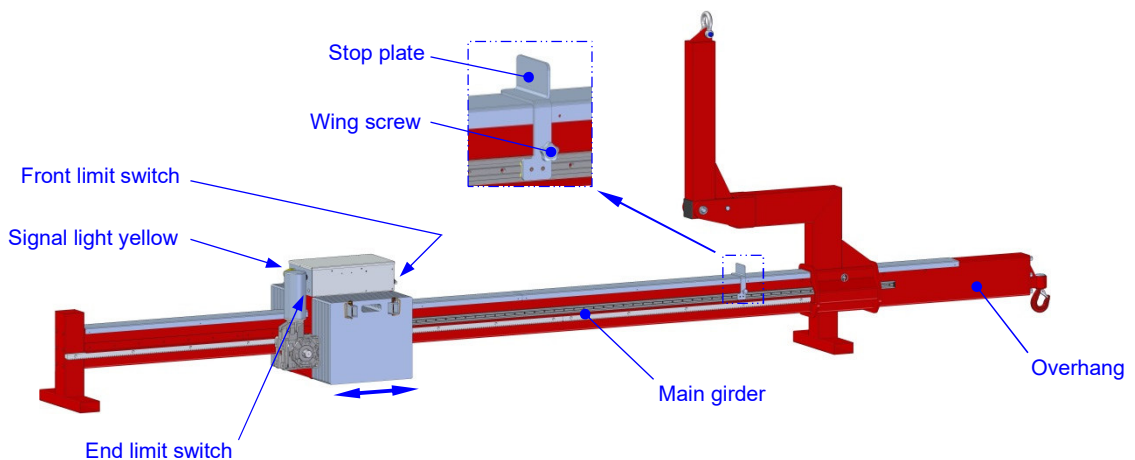

Fig. 10: Stop plate and yellow signal light
- ⇒ Position the stop plate (s. fig. 10) as follows:
- ⇒ Release the wing screw of the stop plate (s. fig. 10) and push the stop plate onto the travelling cage until the front limit switch is triggered. The yellow signal light turns off. Firmly retighten the wing screw.